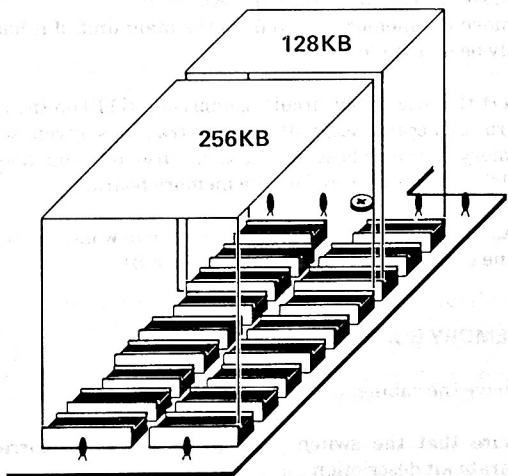

Figure 2 K110-1
1. Remove the cabinet (Procedure A) and any options obstructing access to the main processor board areas illustrated in Figure 2 K110-1.
2. If the main processor board presently includes no more than the standard 256 KB memory, install 256 KB of memory (2 kits K110) in the appropriate IC slots as delineated in Figure 2 K110-1. If 512 KB are already present, install 128 KB of memory (1 kit K110).